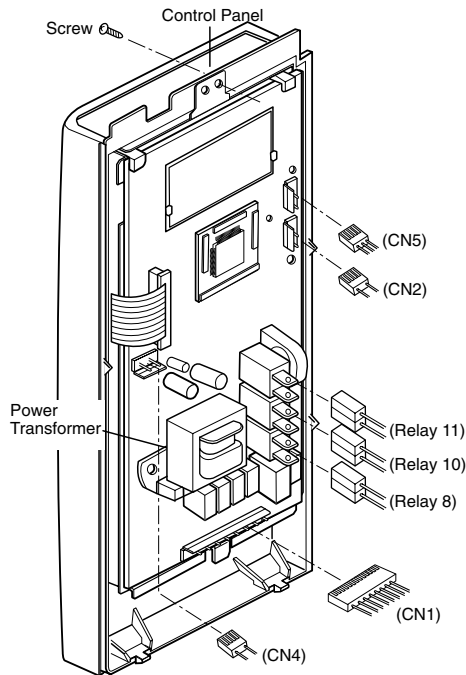

Figure 1
A. REMOVING POWER AND CONTROL CIRCUIT BOARD (Figures 1, 2 and 3)
- (1) Remove a screw securing the control panel assembly to the oven cavity.
- (2) Remove the control panel with pushing it upward.
- (3) Remove the three connectors (CN1, CN2, CN4, CN5) and wire leads (Relay8, Relay10, Relay11) from the circuit board.